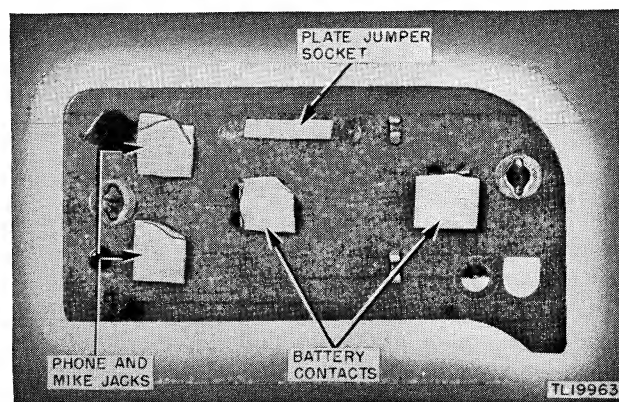

Figure 27. Terminal board, showing masking.
- (11) PHONE and MIKE pin jacks. (See fig. 27.)
- (12) Plate jumper socket. (See fig. 27.)
- (13) Battery contacts. (See fig. 27.) (Mask all contacts on terminal board of Radio Set SCR-536-F.)